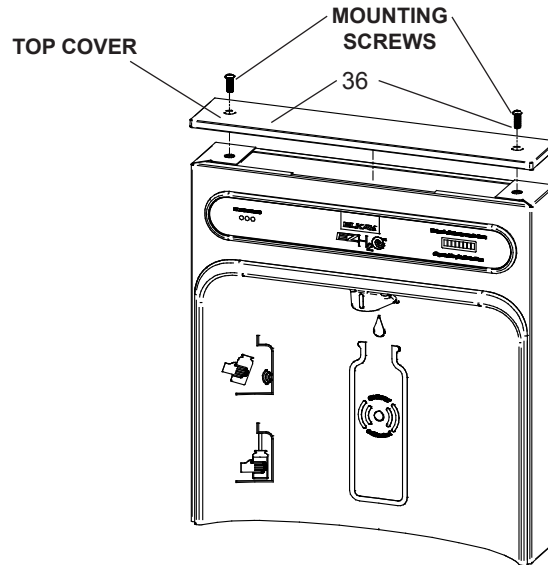

Fig 9
- 1) Remove two (2) mounting screws with 5/32" Allen wrench holding top cover to Bottle Filler (See Fig. 9). Remove top cover. Note do not discard mounting screws, they will be needed to reinstall top cover.
- 9) Once Bottle Filler is installed on wall plate tabs, water line and power cord are installed properly, push top of Bottle Filler toward wall and line up top cover two (2) holes.
- 10) Reinstall Top Cover on Bottle Filler (See Fig. 9) with two mounting screws from step 1 above. Caution, do not over tighten screws.